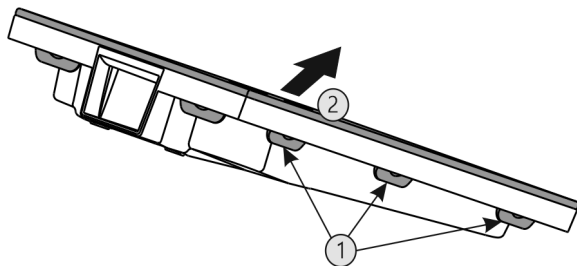

Fig. 57
- ▶ Press all lugs Fig. 57 (1) one after another and remove the cover Fig. 57 (2).